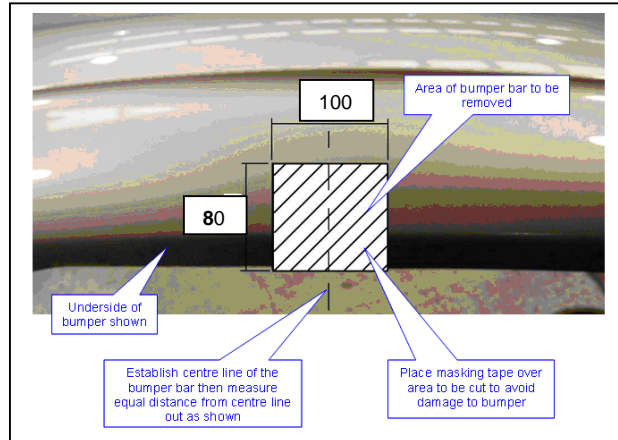

Figure 6 – Bumper Cut out Diagram. - SEDAN
1. Cut the bumper, 80mm in height and 100mm in width, as illustrated in Figure 6.